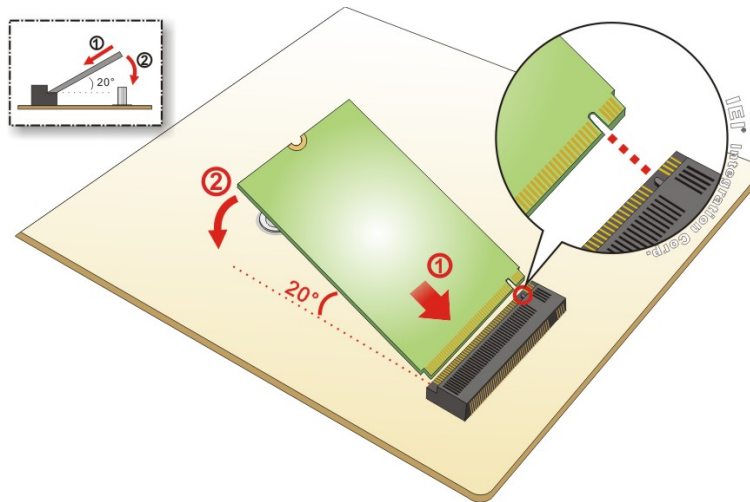

Figure 4-2: Inserting the M.2 Module into the Slot at an Angle
Step 2: Line up the notch on the card with the notch on the slot. Slide the PCIe Mini card into the socket at an angle of about 20° (**Figure 4-2**).